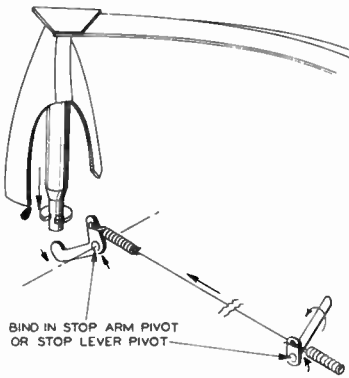

Figure V23.
13. **Tone Arm Will Not Index Properly On 10" and 12" Records:** See figures V23 and V14.